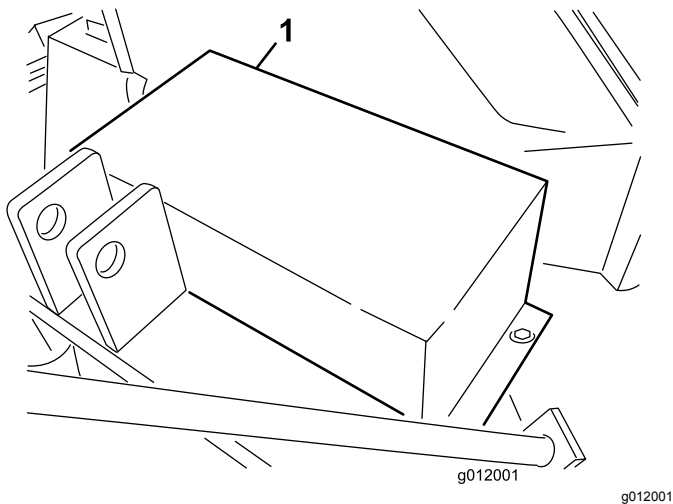

Figure 14
1. Remove the capscrews, washers, and nuts securing the belt guard to the blower housing (Figure 14).
2. Remove the belt guard (Figure 14).